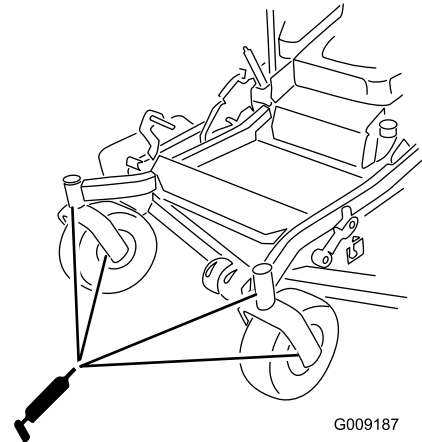

Figure 41
10. Install the hex plug and dust cap (Figure 41).
11. Grease the caster-wheel bearings (Figure 41).